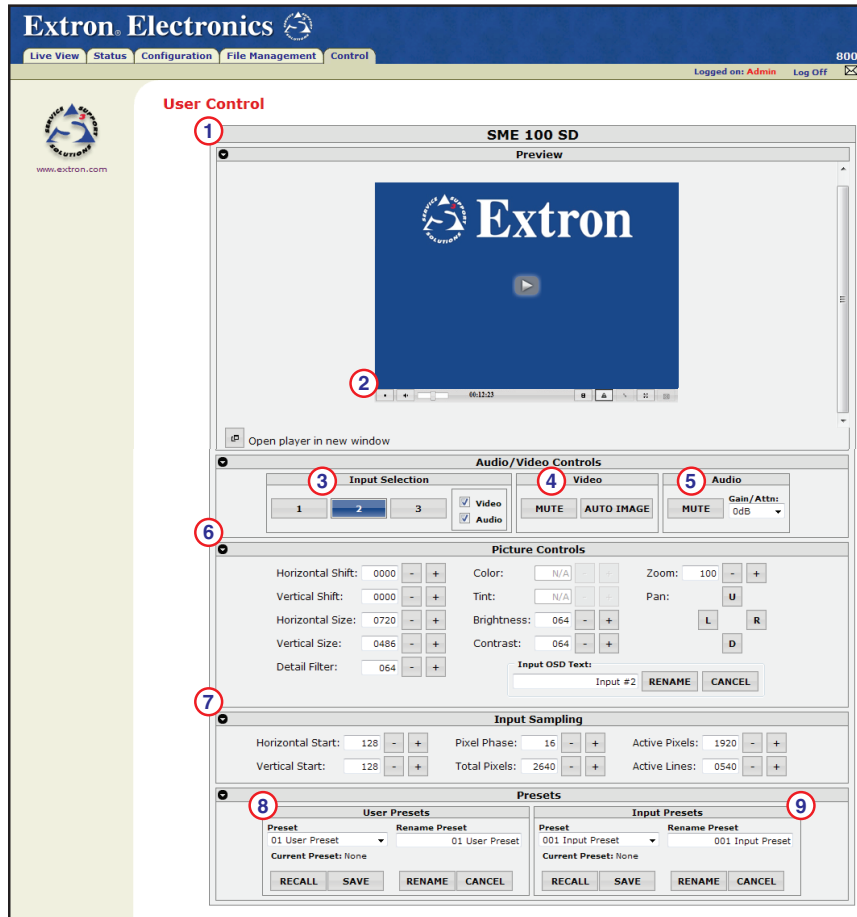

Figure 69. Control Page
The Control page is accessed by selecting the **Control** tab (see figure 69).
- A solid colored input selection button (see ③ in figure 69 on page 77) indicates the selected input.
④ **Audio/Video Controls panel — Video**